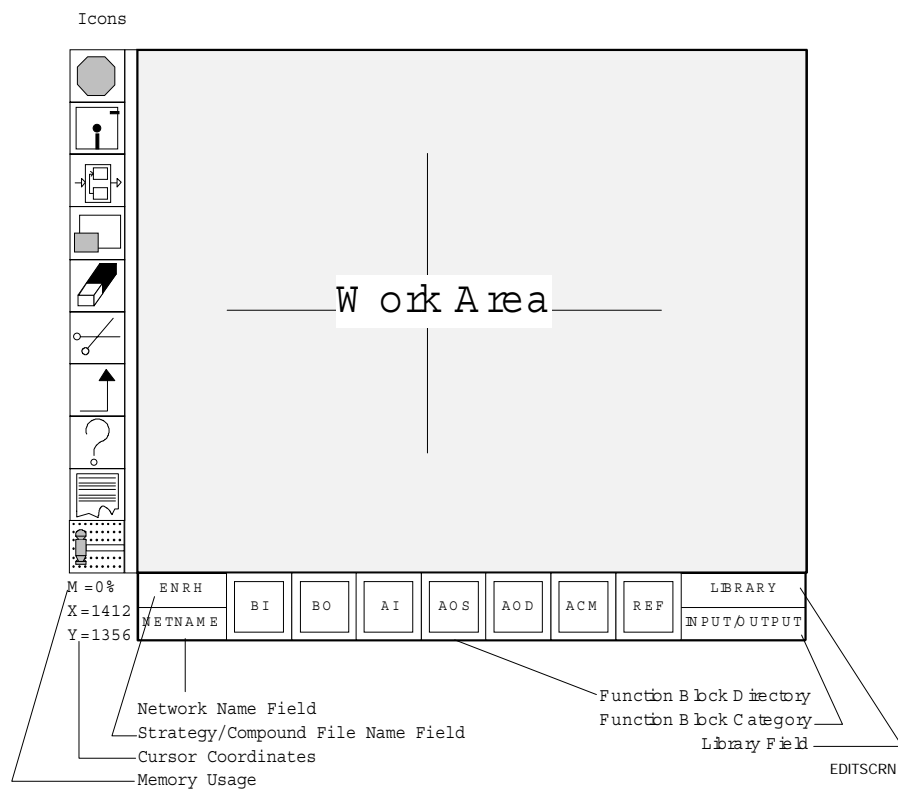
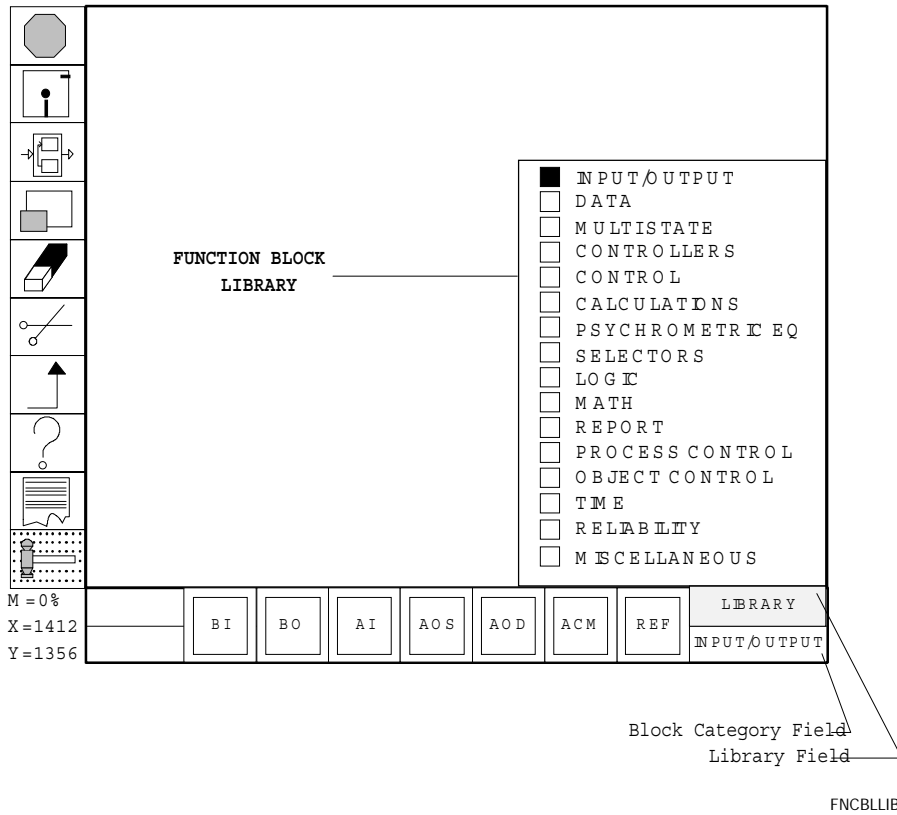

Figure 1: GPL Editor Screen
Figure 8: Function Block Library
As Figure 1 shows, the GPL Editor screen is divided into several, functionally different areas.
**Icons** are graphic symbols (Figure 1) that represent some function, such as enabling the erase function or displaying an option menu. You enable the function by positioning the cursor on the icon and clicking or double-clicking the left mouse button.
The **Network Name** field shows the directory name of the network currently selected (Figure 1). This is the network that the Editor uses for all archive database interactions. The field may also display:
The **Strategy/Compound File Name** field indicates the name of the control strategy or compound that is currently loaded (Figure 1).
The **cursor coordinates** are the x- and y-coordinates of the cursor's position on the screen (Figure 1). They help you to position blocks, lines, and text. The range is 0000 to 1000, with these end values per cursor position:
The **memory usage** figure (M = Memory) is a percentage of how much computer RAM the current control strategy is consuming (Figure 1). The number increases and decreases as you edit the strategy.
The **Function Block Directory** is the row of function blocks that line the bottom of the screen (Figure 1). Clicking left on one of these blocks selects it to be pasted down in the work area.
The **Function Block Category** field shows the name of the currently selected function block category (Figure 1). A block category is a grouping of GPL blocks that have similar functions. GPL has over 60 blocks organized under 16 different block categories. The blocks display on the bottom of the screen when you select a different block category.
The **Library** field (Figure 1) changes the function blocks that display on the bottom of the screen. Clicking left on this field displays the function block categories down the right side of the work area (Figure 8). Selecting one of these categories changes the function blocks directory across the bottom of the screen.
The **Work Area** is the entire middle portion of the Editor screen (Figure 1). In this area, you create and edit control strategies and edit the function block templates. Selection menus, help screens, user messages, the function block library, FILE block icon, the cursors, and the white enclosing box are also displayed here.
The **function block library** shows the 16 function block categories (Figure 8). You need to display the library each time you want to change the function block category. Clicking left in the red checkbox beside a category changes the block directory to make available the blocks under that category.